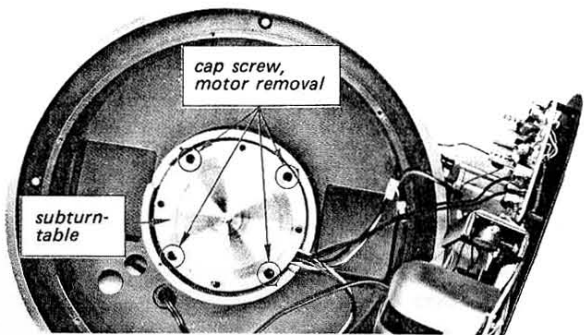

Fig. 2-6. Motor replacement
2. Remove the four Allen-head screws as shown in Fig. 2-6, with hexagonal wrench.